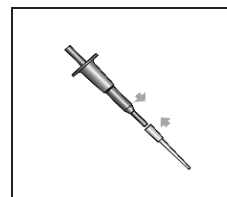

Figure 1
1. Place a yellow pipette tip firmly onto the end of the selected minipet (figure 1).